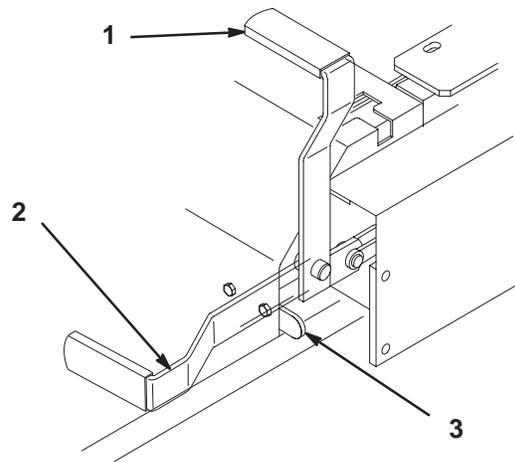

Figure 13
2. Pull back and up on the parking brake lever to set the parking brake (Fig. 13). The parking brake lever should stay firmly in the **engaged** position.
1. Push forward and down on the parking brake lever to release the parking brake (Fig. 13). The parking brake is **disengaged** and the lever will rest against the brake stop.